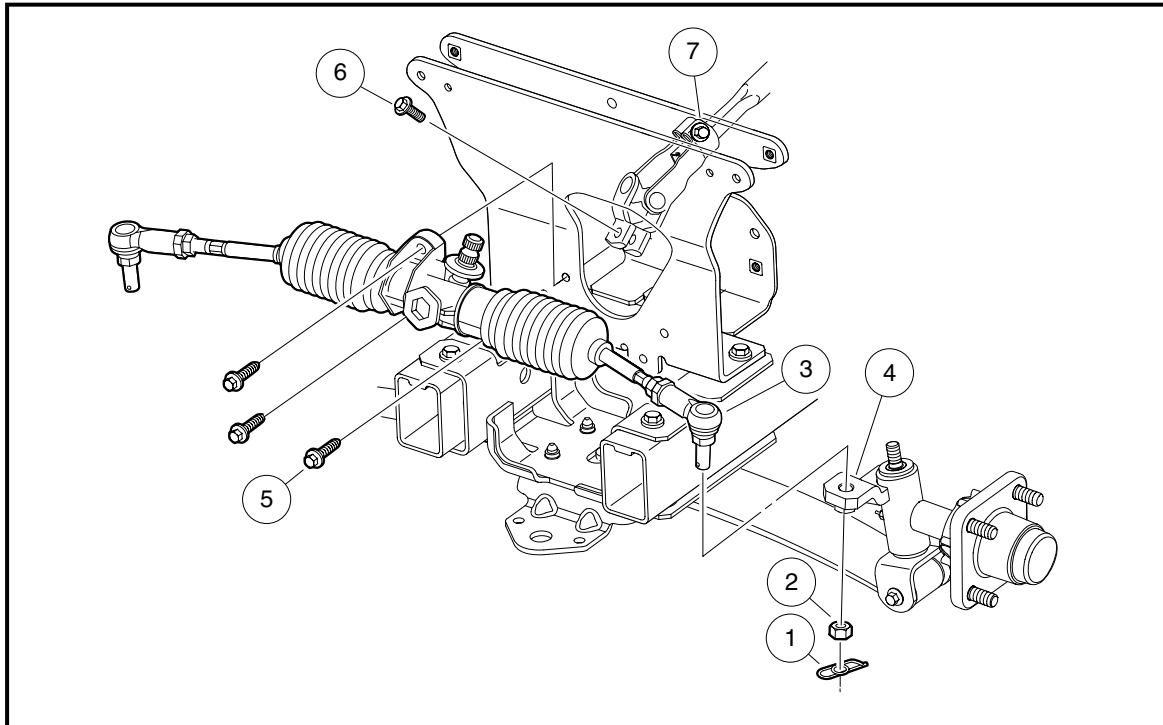

Figure 7-4 Rack and Pinion Removal
2. Remove the retaining pins (1) and tie rod end retaining nuts (2) **(Figure 7-4, Page 7-5)**.
3. Remove the tie rod ends (3) from the spindle assemblies.
5. Install the tie rod ends (3) into the left- and right-hand spindle tabs (4), and then install the retaining nuts (2) (**Figure 7-4, Page 7-5**). See following **WARNING**.